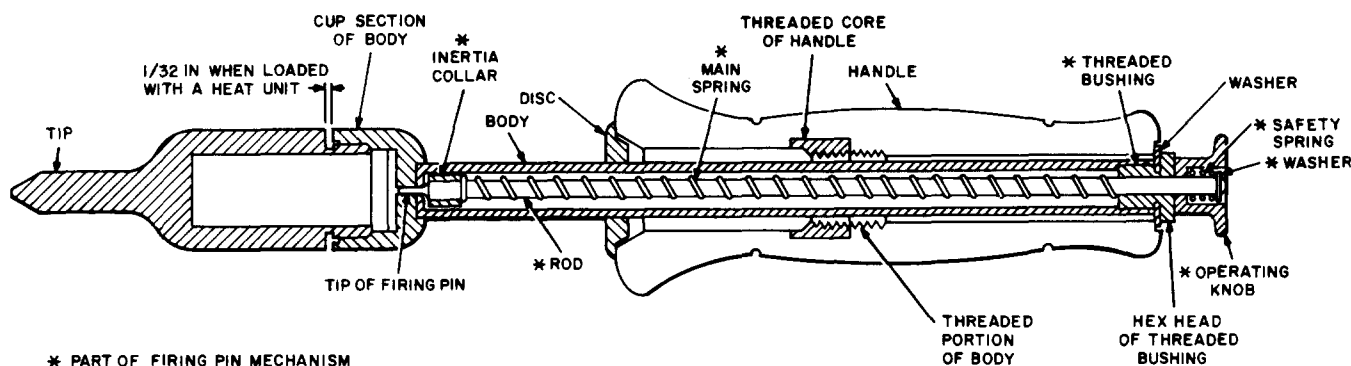

Fig. 3—Section View of KS-14582 L2 Soldering Copper With L5 Tip
4.02 A section view of the KS-14582 L2 Soldering Copper is shown in Fig. 3. The body of the copper consists of a tube having a cupshaped section at one end. The heat unit chamber of the tip screws into this cup and a small hole in the
Note: When inserting a KS-14768 Heat Unit into a KS-14582 L1 or L2 Soldering Copper, make certain the heat unit is firmly clamped between the bottom of the heat unit chamber (L4 or L5 tip) and the inside top of the cup section of the body and that there is a space between the shoulders of the two, at least 1/32-inch, as shown in Fig. 3.